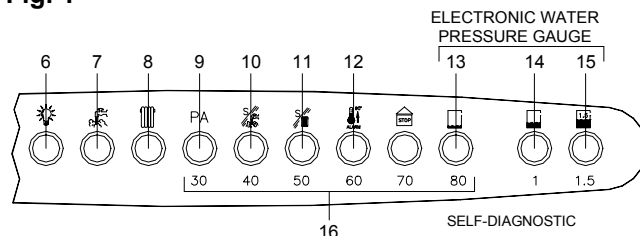

Fig. 2
- C. Insert the thermostat wires (fig.2) one in terminal TA and the other in the one next to it occupied by bridge PT which you have just moved.
SELF- DIAGNOSTIC LEGEND (see fig. 2)
- fill the system until a pressure of 1.5 bar has been reached (light no. 16 ON; see fig. 2) and then close the tap on the filling loop;
- before starting up the boiler the water pressure must be checked again; if this is seen to be below 0.5 bar (light no. 13; see fig. 2), bring it back up to 1.5 bar (light no. 15 ON; see fig. 2) **and close the tap on the filling loop;**
- check the pressure in the system: if this has gone down and LED 13 (see fig. 2 pag. 9) comes restore pressure;